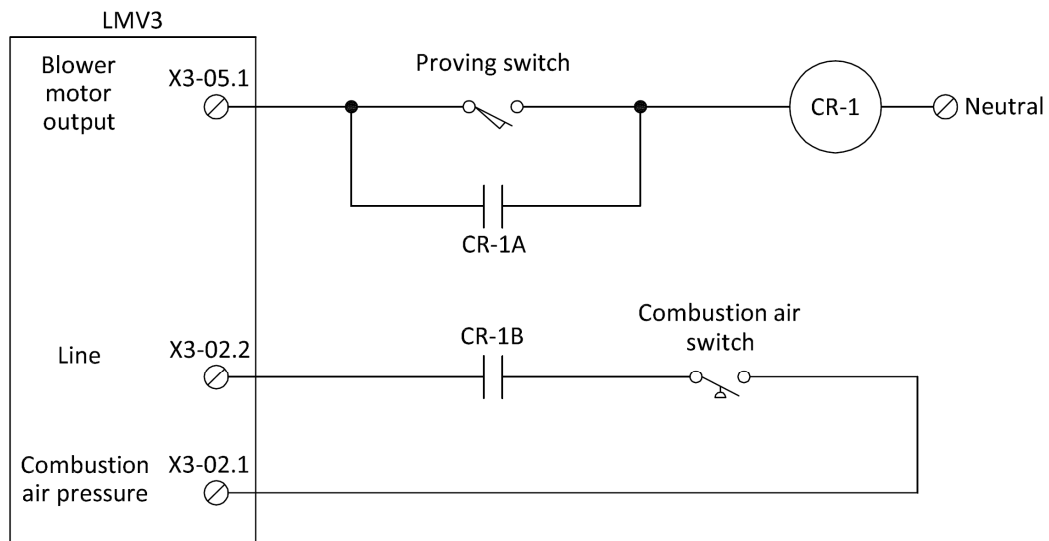

Figure 11: LMV3 Purge Proving Wiring Diagram
1. Wire the LMV3, proving switch, and two-pole relay as shown below in Figure 11.